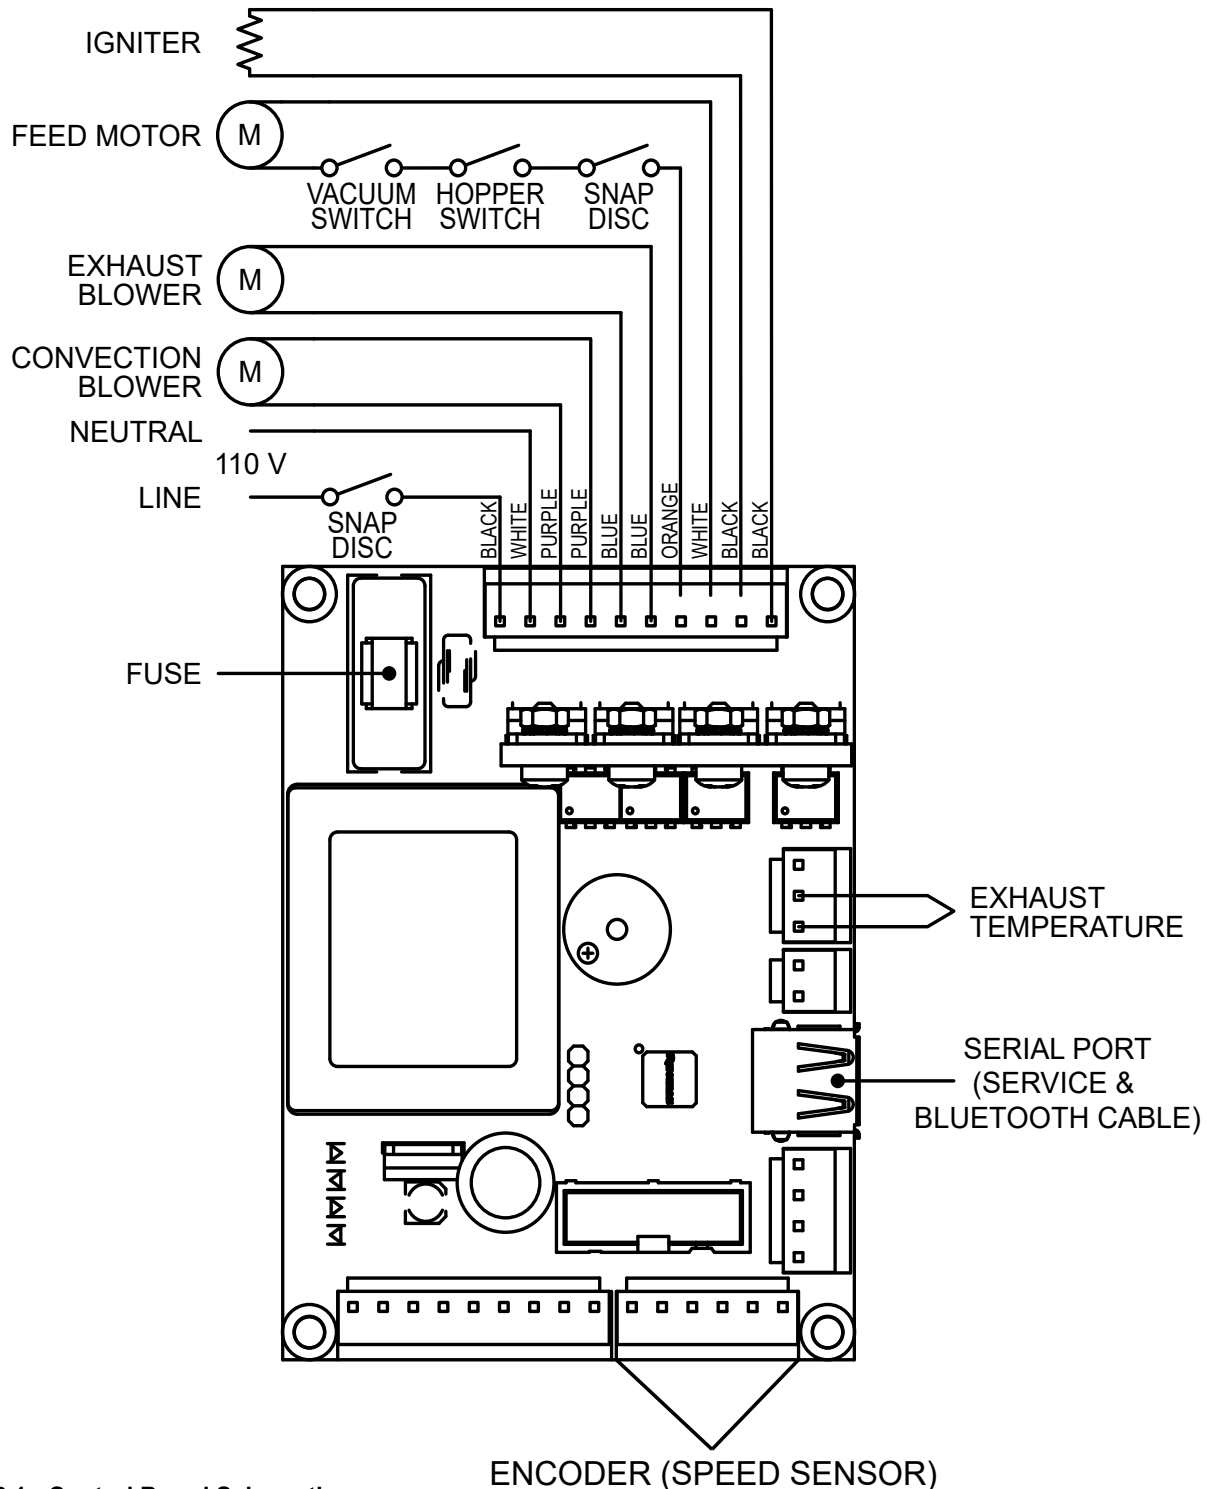

Figure 26.1 - Control Board Schematic
**14. Wiring Schematic for Control Board (Figure 26.1)**